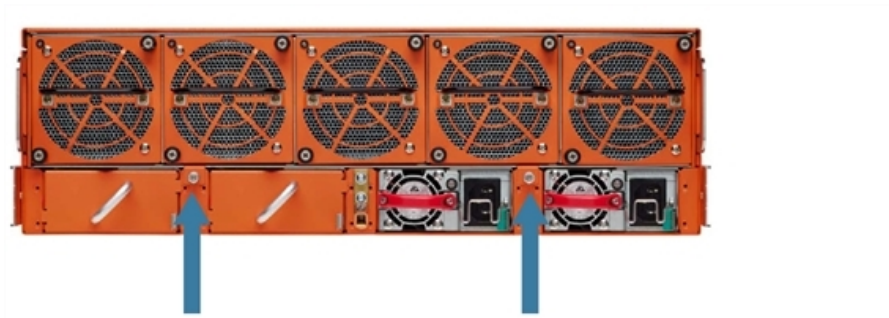

Figure 10 Fan Tray Screw Location on GigaVUE-HC3 Rear
1. Locate the two thumb screws at the bottom of the fan tray as shown in Figure 10 Fan Tray Screw Location on GigaVUE-HC3 Rear.
6. Tighten the thumb screws on the fan tray, then use a Phillips screwdriver to tighten the screws. Refer to Figure 10 Fan Tray Screw Location on GigaVUE-HC3 Rear.